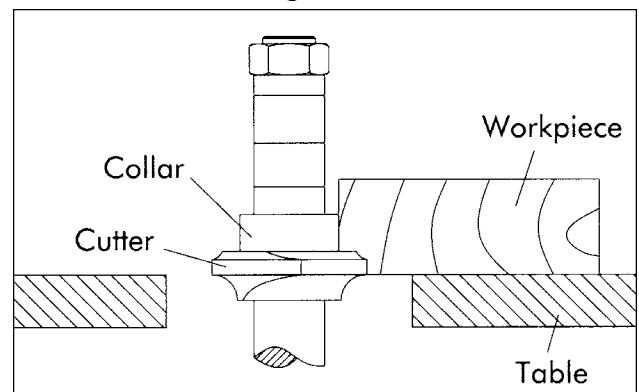

Figure 23
2. When the collar is used above the cutter, as shown in Figure 23, the cut can not be seen, but this method offers an advantage in that the cut is not affected by slight variations in the thickness of the stock. Also, accidental lifting of the workpiece will not gouge the workpiece; simply repeat the operation to correct the mistake.